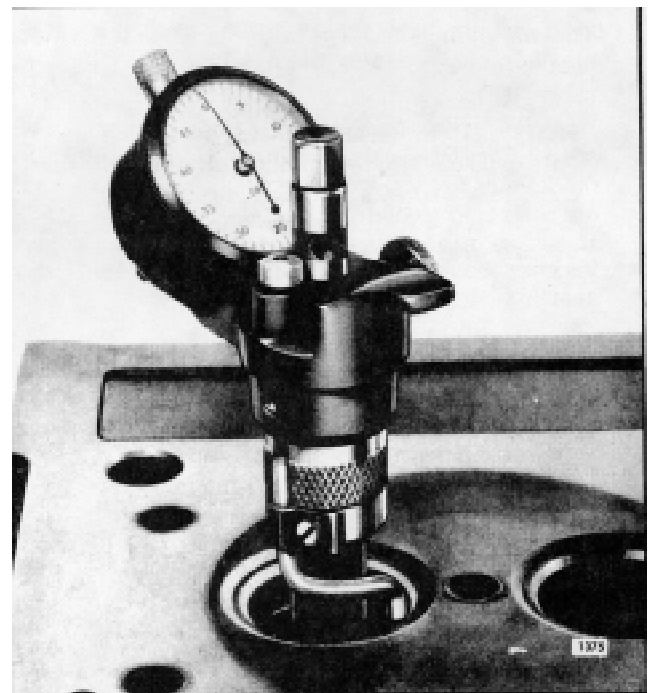

Fig. 18. Determining Concentricity of Valve Seat Insert with Dial Indicator J 81
4. After the grinding has been completed, clean the valve seat insert thoroughly with fuel oil and dry it with compressed air. Set the dial indicator J 8165-2 in position as shown in Fig. 18, and rotate it to determine the concentricity of each valve seat insert relative to the valve guide. Total runout should not exceed .002". If a runout of more than .002" is indicated, check for a bent valve guide before regrinding the insert.